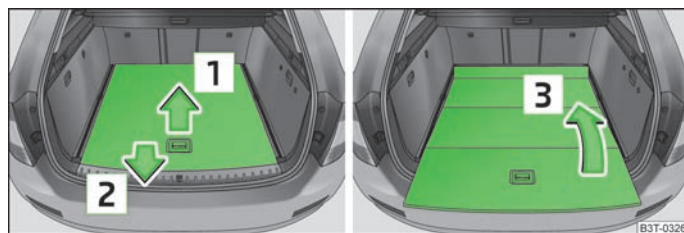
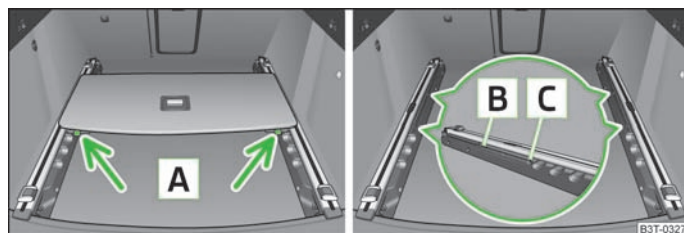

Fig. 75 Luggage compartment: Fold up variable loading floor
Fig. 76 Luggage compartment: remove variable loading floor
- Grasp the rear part of the floor by the handle, raise it slightly in the direction of the arrow **1** » Fig. 75 and pull it out over the bumper in the direction of the arrow **2** until it engages in the opening **C** » Fig. 76.
- Fold up the loading floor by moving it in the direction of the arrow **3** » Fig. 75.
- Press the safety buttons **A** » Fig. 76 and remove the floor.
- Push the floor forwards until it engages in the openings **B** in the carrier rails » Fig. 76.